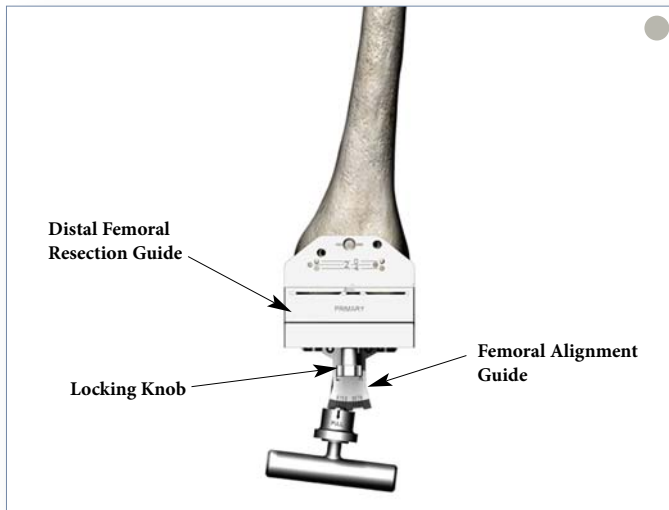

Figure 7
- ▶ Select the appropriate Distal Femoral Resection Guide and assemble it to the Femoral Alignment Guide by positioning the Resection Guide over the two pegs on the alignment guide. The resection guide is locked into place by pushing and turning the locking knob 1/4 turn clockwise (Figure 7).